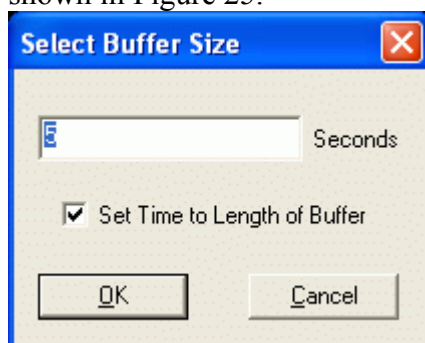

Figure 25: Changing scope time buffer window.
1. Select the *Update | Buffer...* item in the scope menu bar to load the *Select Buffer Size* window shown in Figure 25.